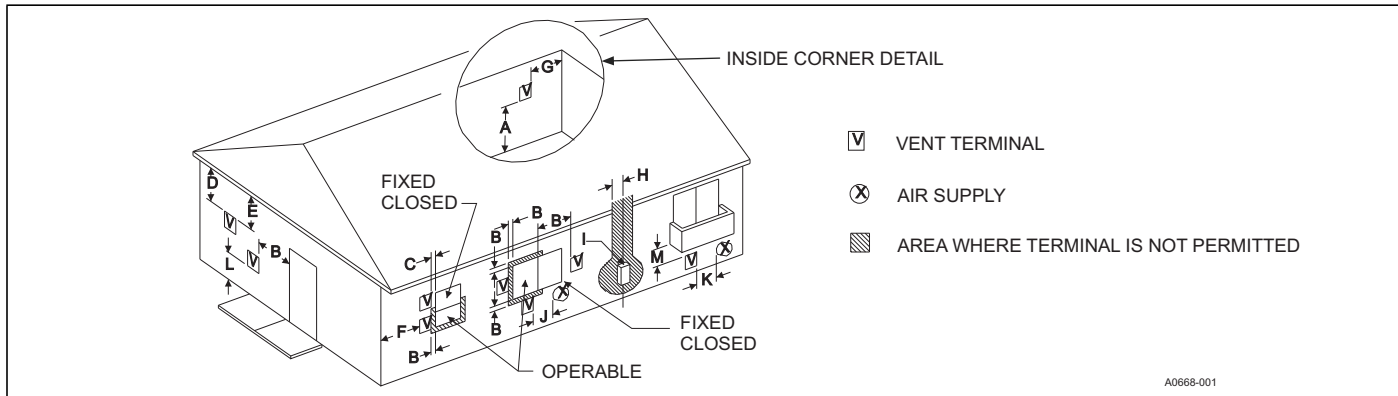
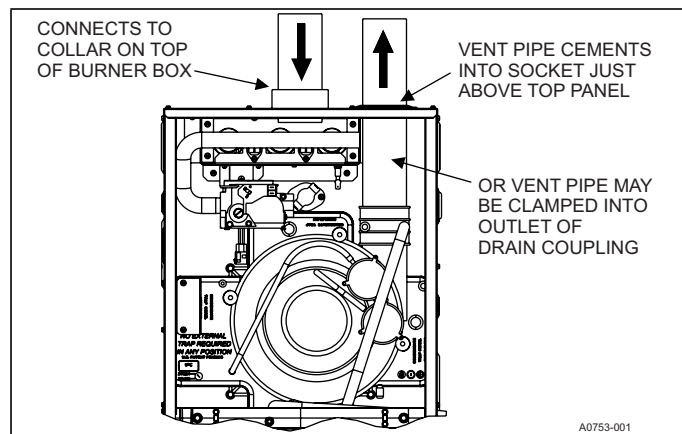

FIGURE 23: Home Layout
FIGURE 30: Direct Vent Air Intake Connection and Vent Connection
- **AMBIENT COMBUSTION AIR:** Combustion air is supplied from the area surrounding the furnace through openings in the furnace casing. The combustion air and the vent pipes are not terminated in the same atmospheric zone. See Figure 23 for vent terminations. See the Ambient Combustion Air Supply section for proper installation. See Figure 30.
This installation requires combustion air to be brought in from outdoors. This requires a properly sized pipe (shown in Figure 30) that will bring air in from the outdoors to the furnace combustion air intake collar on the burner box. The second pipe (shown in Figure 30) is the furnace vent pipe.